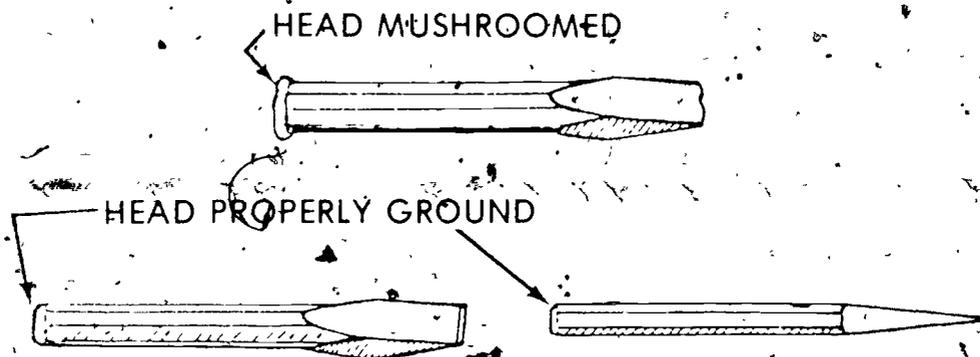

FIGURE 1
- D Grind a bevel on the head (Figure 1)